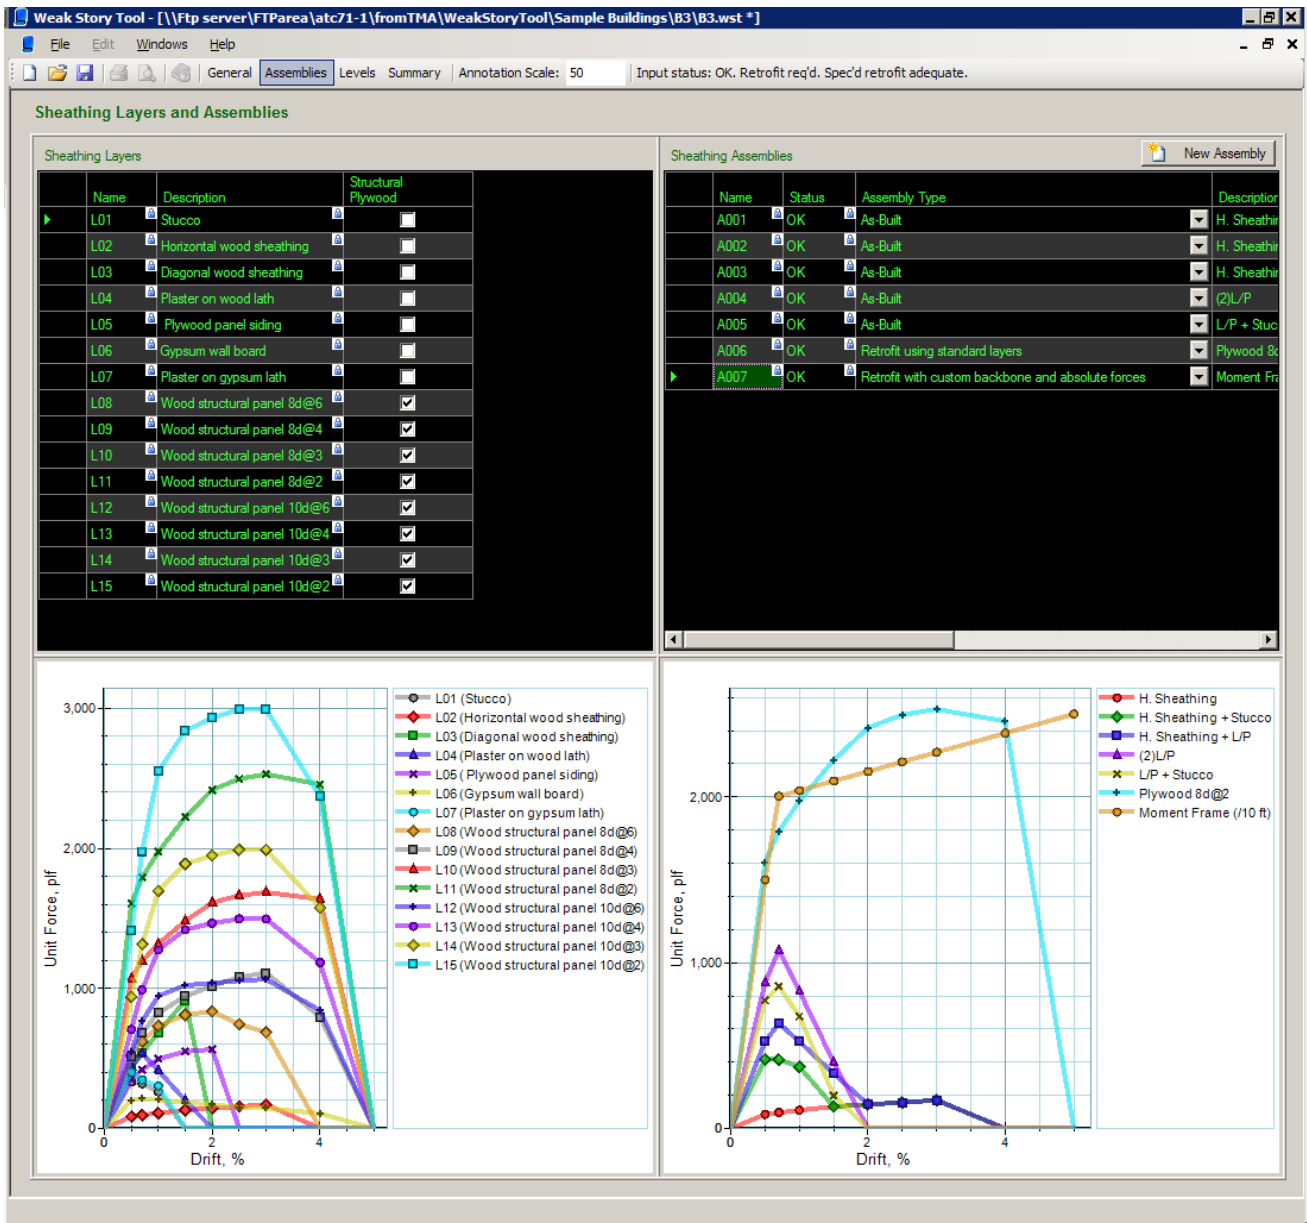

Figure A-6 Screenshot of Assemblies control.
In the *Assemblies* control, the user may define assemblies that will be assigned to wall (or frame) elements in the *Levels* control. There are fifteen (15) pre-defined sheathing layer types including both finish and wood structural panel types. The list of available layer types appears on the top left (see Figure A-6). The load-drift curves for the default sheathing layer types are read-only.
On the top right is the table of sheathing assemblies. The user may create a new assembly by clicking the *New Assembly* button (Figures A-6 and A-7). The user must specify an assembly type. There are four types available: